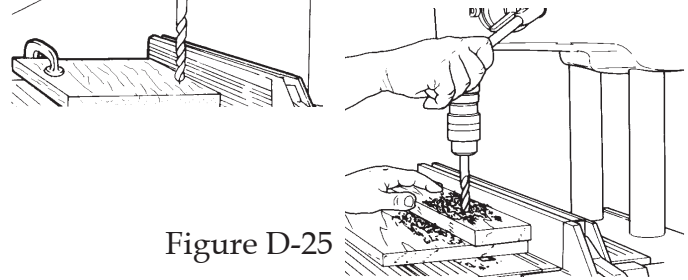

Figure D-25
6. Adjust the speed, turn on the Mark 7, and feed the drill bit into the stock slowly. See Figure D-25. When drilling deep holes, retract the drill bit now and then to clear chips from the hole. When you feel the depth control stop the quill, retract the drill bit. Turn off the machine. Let it come to a stop, then remove the stock.